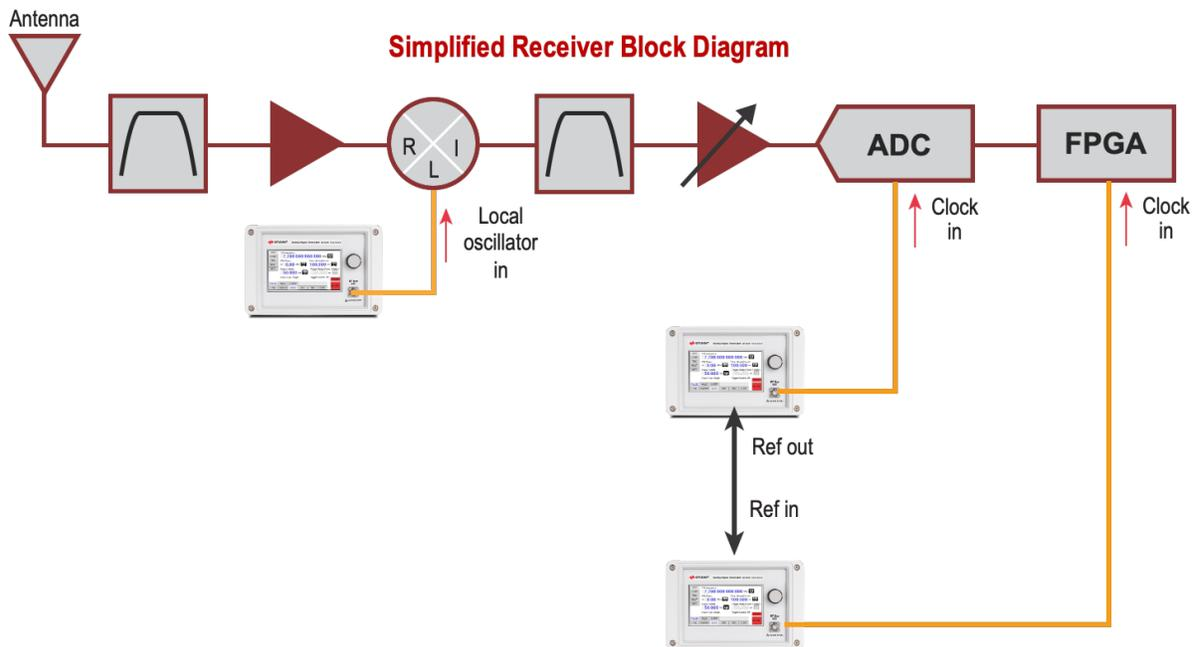

Figure 4. The AP500xA serves as LO and clock substitutes
During the product development phase, R&D engineers and technicians may use a signal generator to substitute for the system's local oscillator (LO) and clocking subsystems. Figure 4 shows a simple receiver where the AP500xA signal generators are the LO and clock substitutes for the case when the circuit prototypes for the LO and clock components have yet to be designed. The first signal generator connects to the mixer as an LO substitute. The output from the mixer then passes through a bandpass filter to capture the signal of interest. The signal of interest is then amplified before being sampled by an analog-to-digital converter (ADC) for additional signal processing inside a field-programmable gate array (FPGA). In this case, the ADC and FPGA clocks (the AP500xA as a substitute) are configured to run at different frequencies. These two sources are frequency-locked together by connecting their internal reference oscillators. It is also possible to frequency-lock the LO generator to these two sources if required.